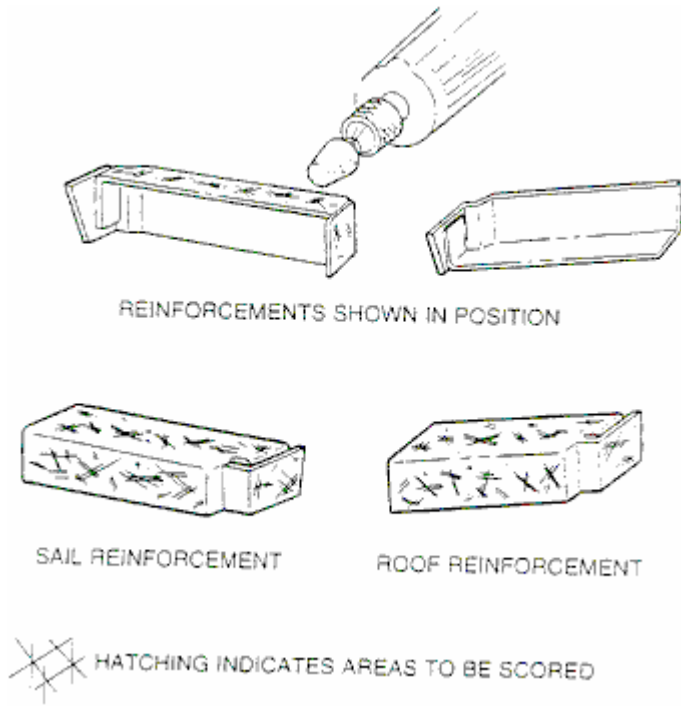

FIGURE 8
23. Score the surfaces of the metal reinforcements. Use a solvent and clean cloth to wipe the surfaces clean for better adhesion with the two-part epoxy (refer to Figure 8).